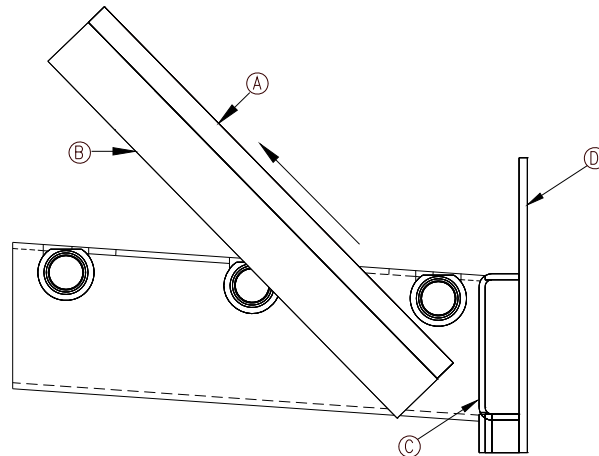

Figure 4.4a
1. Stack the baffle boards (A) on top of the vermiculite boards (B) as shown in figure 4.4a .